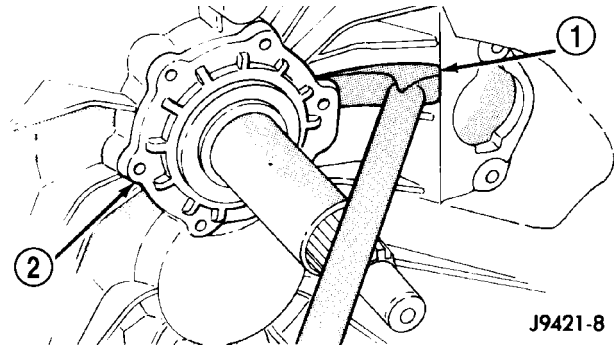

Fig. 9 BEARING RETAINER
(8) Remove shift shaft detent spring and plunger with a pencil magnet.
(9) Remove input shaft bearing retainer bolts.
(10) Loosen input shaft bearing retainer by **carefully** lifting the retainer with a pry tool to break sealer bead (Fig. 9).